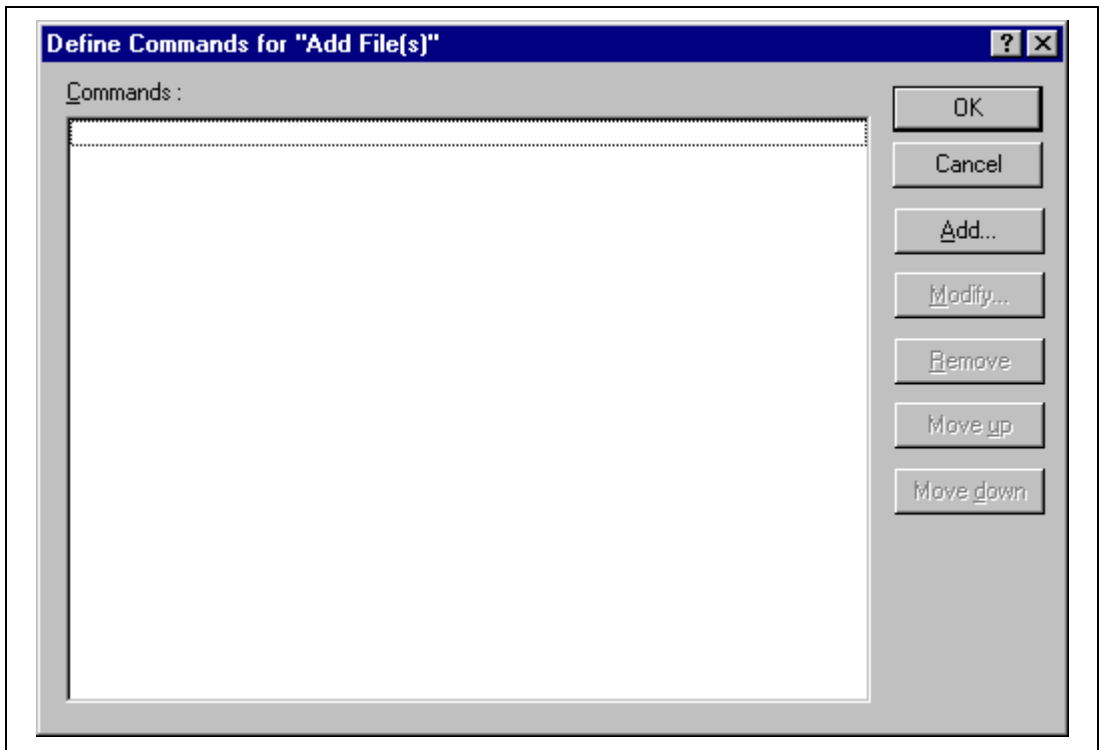

Figure 8.3: Modify System Menu Option (Example)
2. Select the option to be modified from the “System menu options and toolbar buttons” list and then click the “Modify...” button. The dialog shown in * MERGEFORMAT figure 8.3 will be displayed. This figure shows a dialog when “Add File(s)” has been selected for example.
Commands are defined when the “Add...” or “Modify...” buttons are clicked on the dialogs shown in figure 8.3 and figure 7.4. In either case, the dialog shown in * MERGEFORMAT figure 8.5 is invoked.